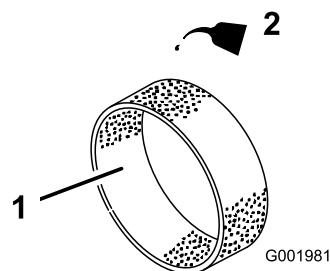

Figure 45
4. Put one or two ounces of oil on the element (Figure 45).